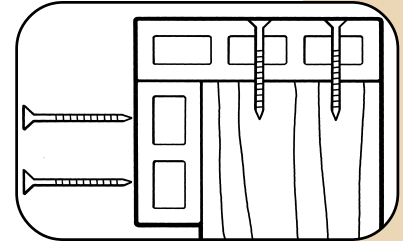

Fig. 39
- Place one Side Rail perpendicular to the Top Rail at each Rail section, making sure that the top of the Side Rail is flush with the side of the Top Rail (Fig. 39).
- Pre-drill and place two #8, 2-1/2" stainless steel or galvanized deck screws 1" from the end of each Side Rail and fasten into each 4x4 post (Fig. 39).